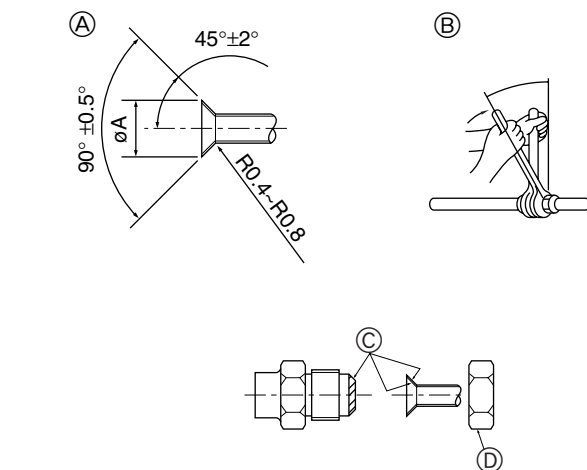

Fig. 5-1
- (A) Drain pipe
- (B) Ceiling
- (C) Grille
- (D) Refrigerant pipe (liquid)
- (E) Refrigerant pipe (gas)
- (F) Water supply inlet
- (G) Main unit
5.1. Connecting pipes (Fig. 5-1)